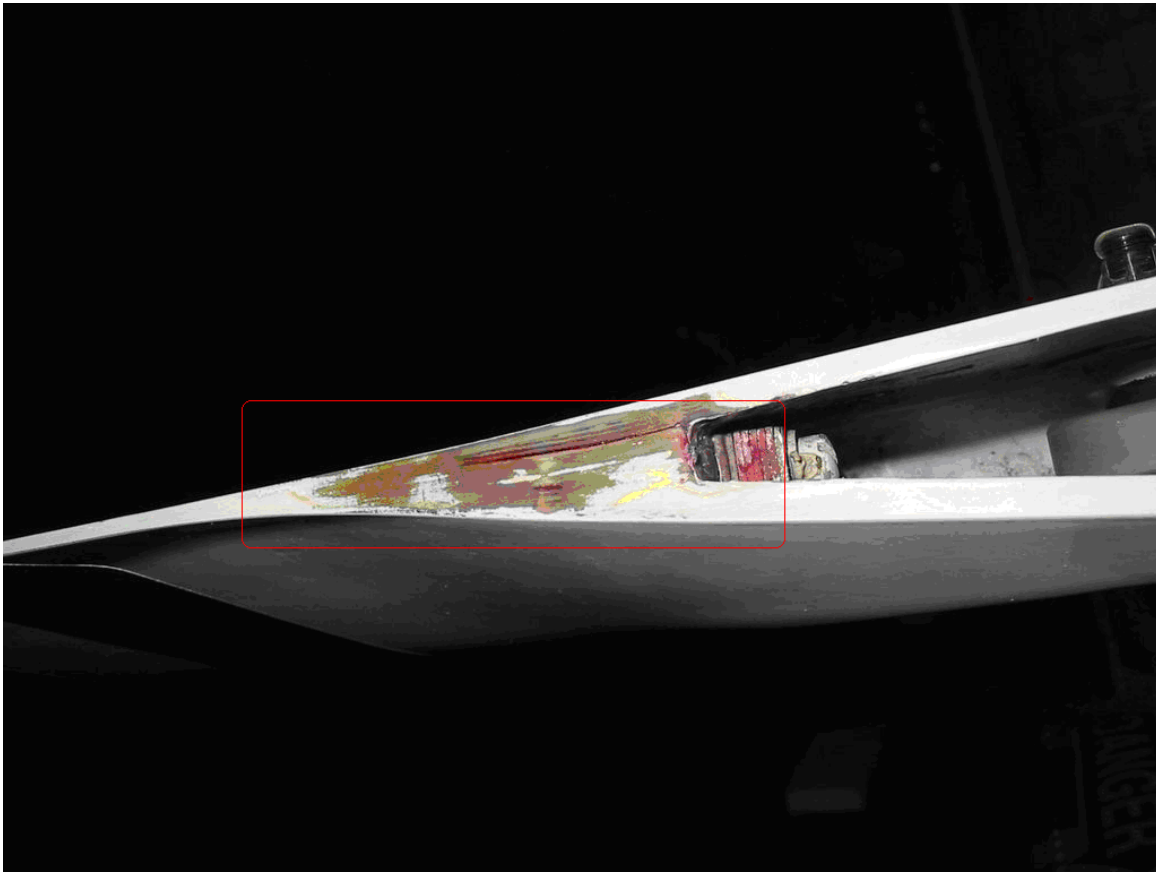

Figure 1. Areas for particular attention during inspection
Pilots should be advised to pay particular attention to the area shown in Figure 1, when performing their pre-flight check.
1. Refer to Figure 1. Use detergent (C-318) and thoroughly clean the tail rotor blade in the area to be inspected.